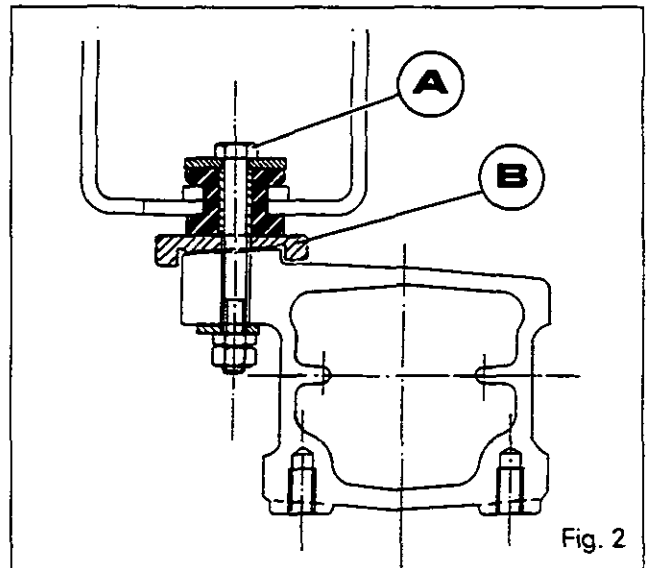
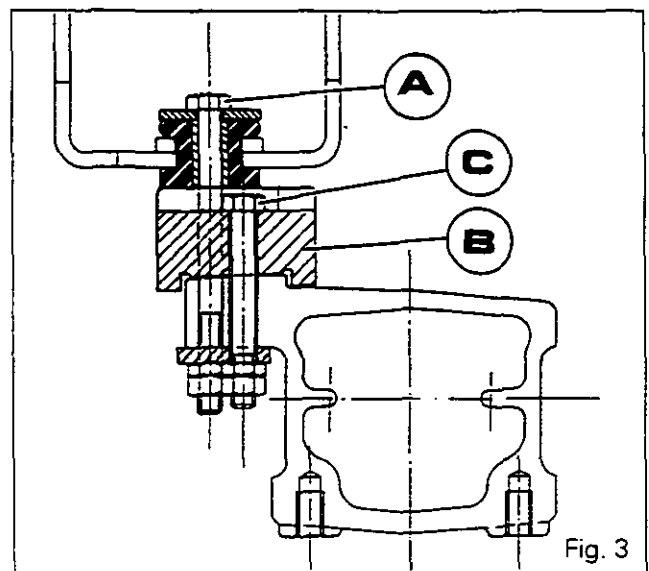

Fig. 2
Fig. 3
9. Remove the cab attaching bolts (A) (Low profile cab Fig.2) - (Hiline cab Fig.3).
11. Remove the spacer (B) (Fig.2 low profile cab).
Note: Only for trumpet housing replacement on hiline cab tractors, remove bolts (A) and (C) and the spacer B (Fig.3).
14. Unscrew the attaching bolts (20).